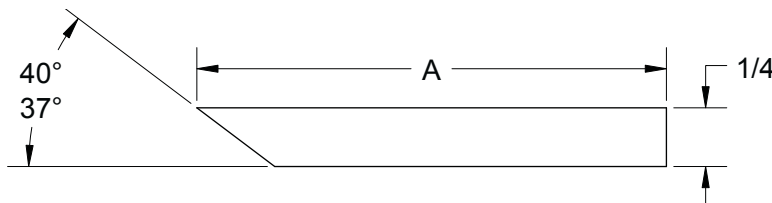

Figure 4
- D) Lay the knife down on the knife shelf. Ensure the knife is installed with the **cutting angle edge facing down** as shown in Figure 4. Loosely install the three knife clamps with the nine knife mounting bolts. Tighten the mounting bolts just enough to hold the knife in position while still allowing it to be moved.
- H) Immediately have the removed knife sharpened. Do not attempt to grind the knife by hand. It must be ground straight and true on a surface grinder by an experienced knife sharpener. Have the knife sharpener grind the knife to the profile shown in Figure 4:.